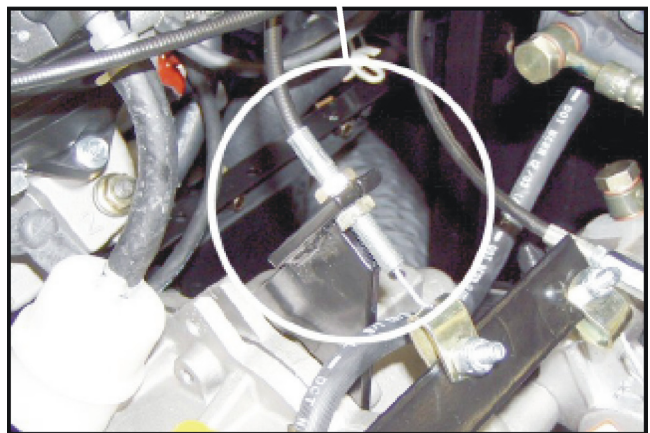
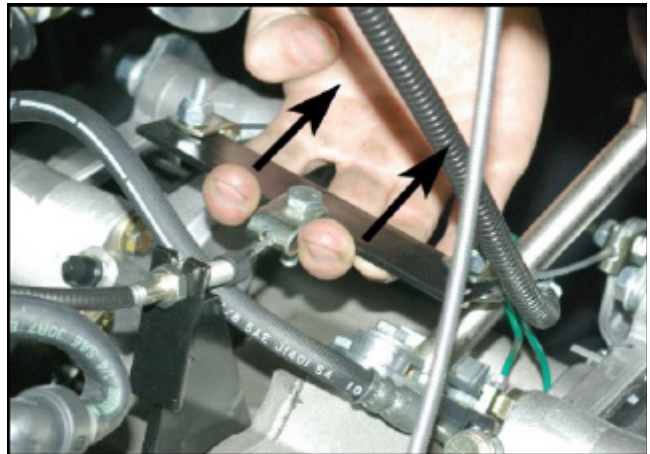

Figure 7-20. Location of Bracket
Figure 7-21. Equalizer Flat Bar.
3. Locate the 850-72 Parking Brake Adjustment Bracket attached to the top of the transmission. Figure 7-20. Adjust to remove any slack in the cable that may be present between the brake lever, and the brake cams at the emergency/parking brake calipers. This may require physically pulling down on the equalizer flat bar to ensure all slack is eliminated. See Figure 7-21.